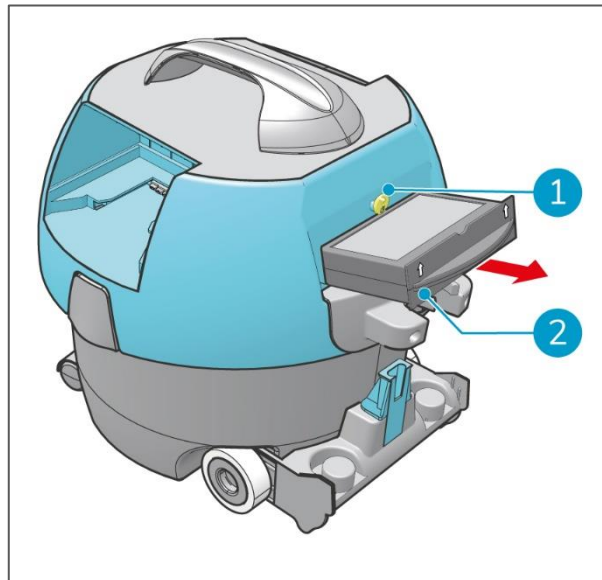

Figure 22
1. Turn the yellow locking disc (Figure 22, pos 1) up.
2. Pull out the cassette filter (Figure 22, pos 2) from the head of the i-vac 9B.